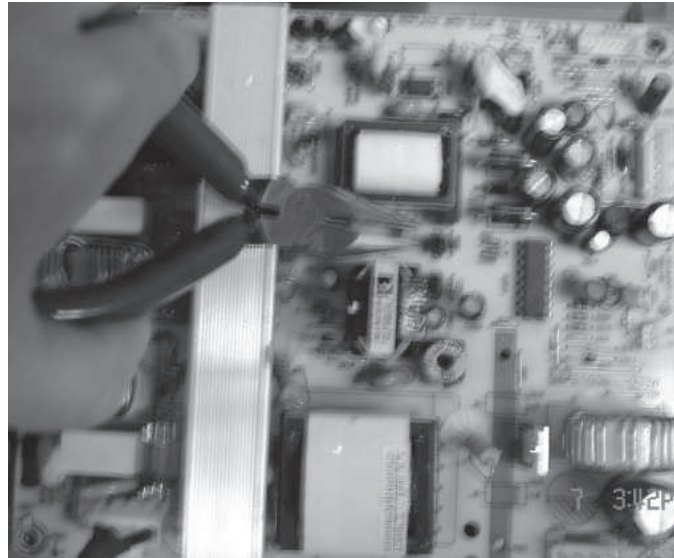

Figure 8
- 2) With a pincers to nip this space as shown in figure 8 and to take up the power board.